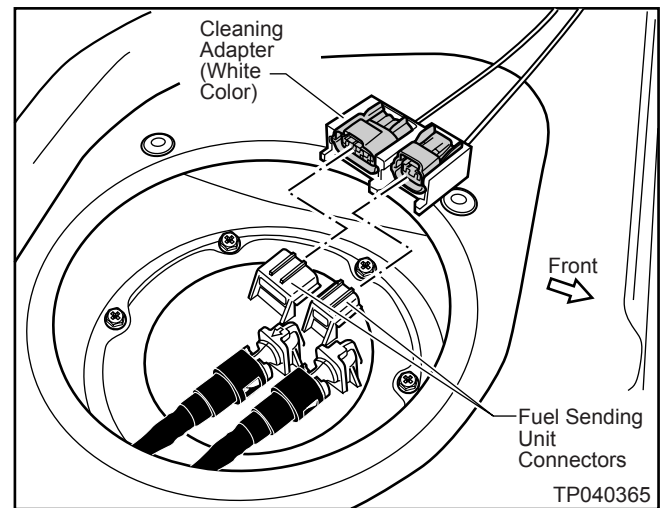

Figure 29
8. Install the Cleaning Adapter (white color adapter) onto the Fuel Sending Unit Connectors until it clicks (locks) in place. See Figure 29.